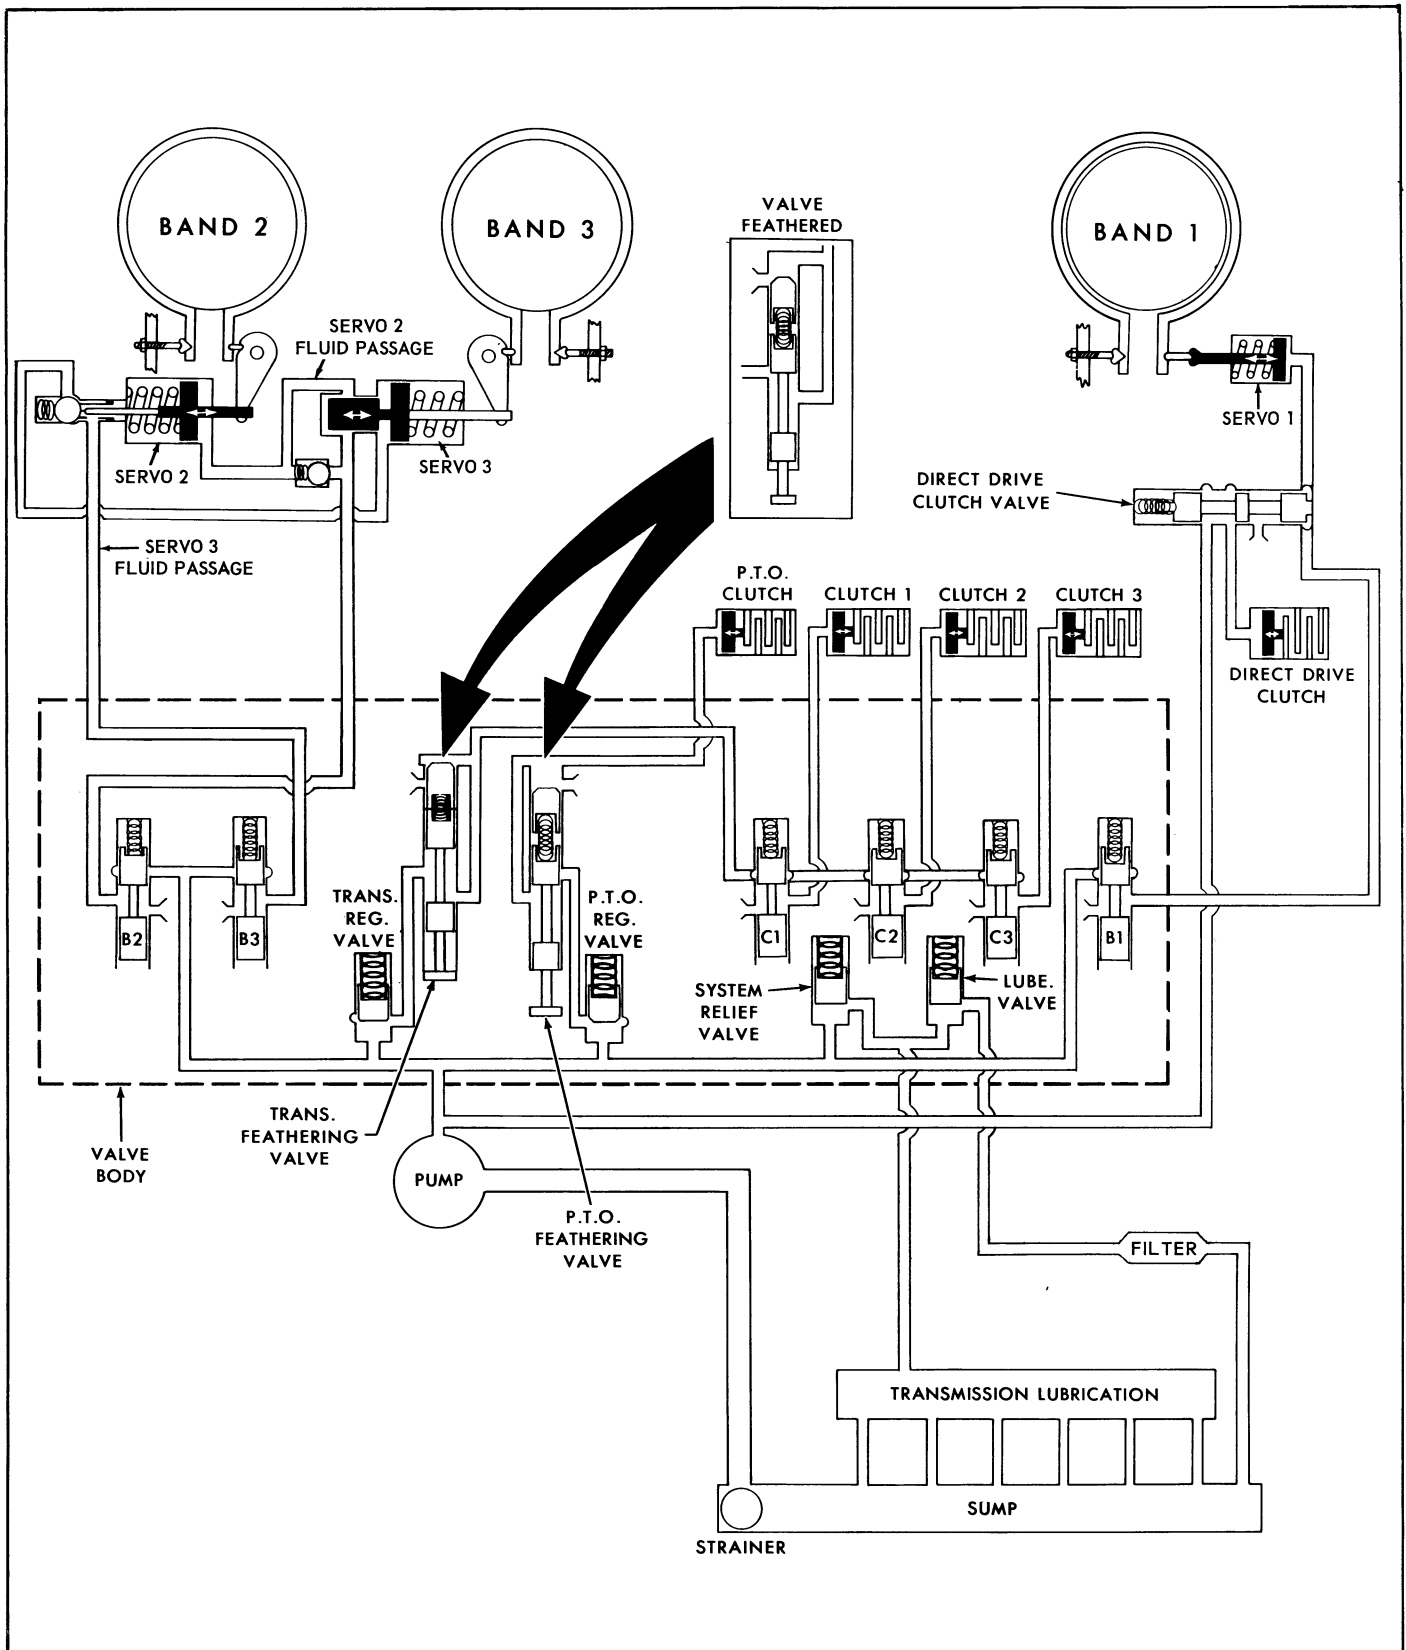

Figure 19
Proper transmission operation is determined by the hydraulic control system which controls the flow of fluid pressure to the clutch packs and servos. The details of the fluid action to actuate these components for each gear ratio are given below. Figure 19 illustrates in schematic form the hydraulic system for the park (P) position.